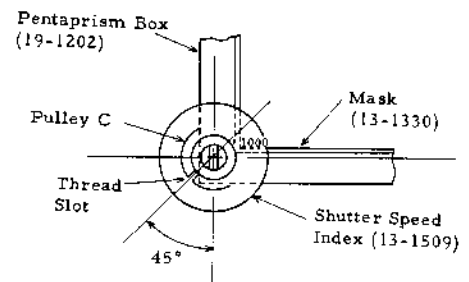

Fig. 3
Set pulley C (part of pentaprism box) in the position shown in figure 3 and glue Shutter Speed Index (13-1509) in place so the numeral "1000" is parallel with Mask (13-1330). Use "Diabond" or equivalent.
- While keeping "1000" correctly positioned (Fig. 3) knot the pulley A end of the thread, and trim the excess thread.